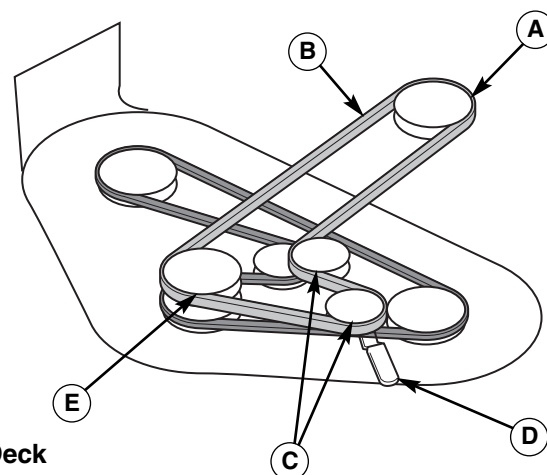

**Figure 12. Mower Hitch Components - 42 & 50" Decks**
6. Place 4x4 wood blocks (D, Figure 12) under the front and rear lip of the mower deck to securely support it.
9. Remove the hair pin clip (A) securing the rear mower lift arm. Separate the lift arm from the mower deck. Repeat on both sides of the mower.
10. Remove the hitch rod (C) from the hitch bracket.
1. Slide the mower deck under the right side of the rider. Slide the mower forward and hook the front hitch rod (C, Figure 12) to the front mower deck hooks.
2. Slide the mower deck backwards and connect the rear lift arms to the mower deck. Secure with hair pin clips (A).
4. Use the cutting height switch to raise the mower until it is no longer resting on the 4x4 wood blocks (D).
5. Turn the ignition switch OFF and remove the key. Remove the 4x4 blocks (D).